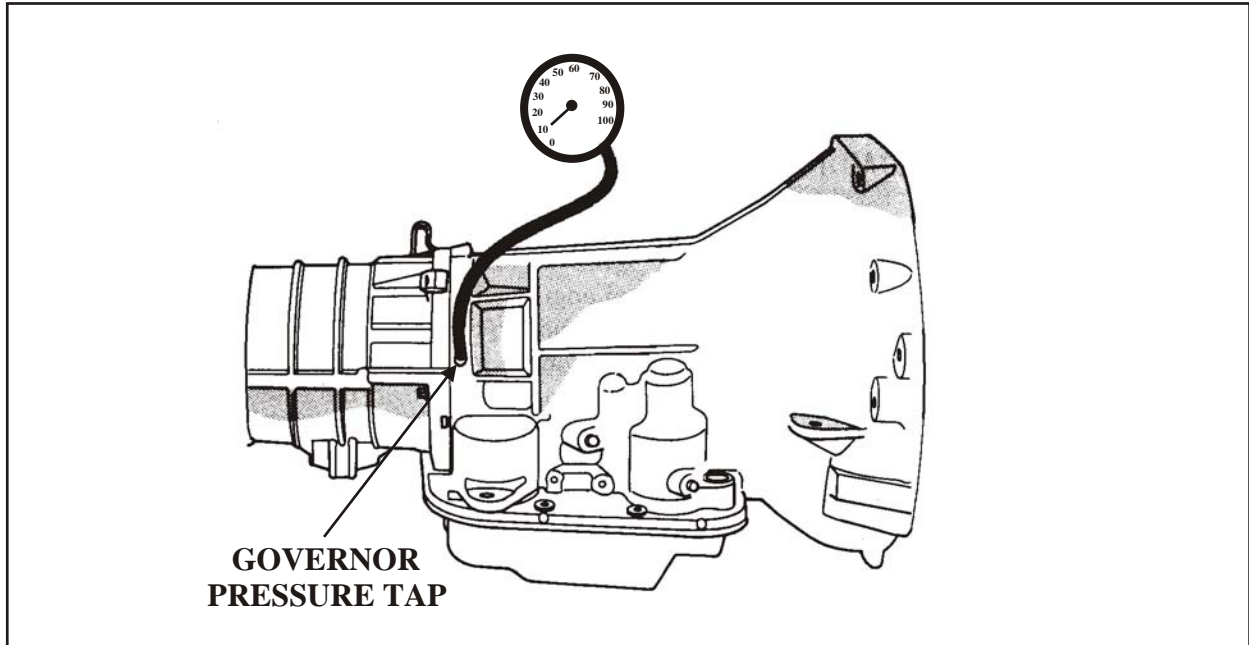

Figure 1
- (1) If the vehicle has a wrong gear start and upshifts to fourth gear, place a pressure gauge on the governor tap, as shown in Figure 1. Should 0 PSI be observed while taking off in second gear, a sticking 1-2 shift valve is the cause. To correct this condition will require removing the valve body and freeing the 1-2 shift valve.
- (2) Chryslers dedicated DRB III scanner displays governor pressure sensor values that the computer monitors. The governor pressure sensor provides information to the computer as to the approximate pressure in the governor circuit. If at a stop, the sensor tells the computer that 0 PSI is in the governor circuit, but a pressure gauge reveals that there is actually 12 PSI in the governor circuit, the computer does not know to cycle the governor solenoid to a lower pressure since it already thinks it is at 0 PSI. If the sensor indicates that 12 PSI is in the governor circuit, and the pressure gauge verifies it, this means that the sensor is working properly and the governor pressure solenoid is most likely defective and will need to be replaced.
- (3) Without the DRB III scanner, voltage checks will have to be made on the governor pressure solenoid wire, and the governor pressure sensor wire with your DVOM, while a pressure gauge is attached to the governor pressure port as shown in Figure 1. Following is the procedure for these tests.